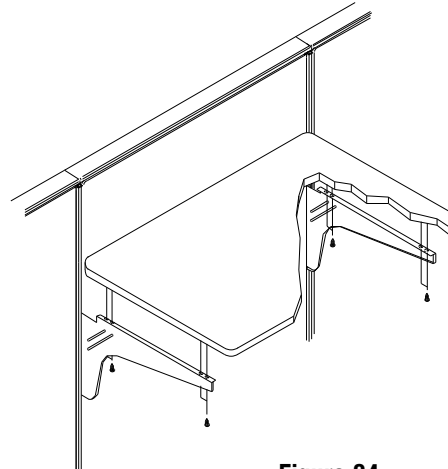

Figure 34
8. Set the worksurface on the cantilever brackets and line up the worksurface pilot holes with the slots on the cantilever brackets. Secure the work surface to the brackets using (2) #14 x 3/4" screws in each bracket. **Figure 34.**